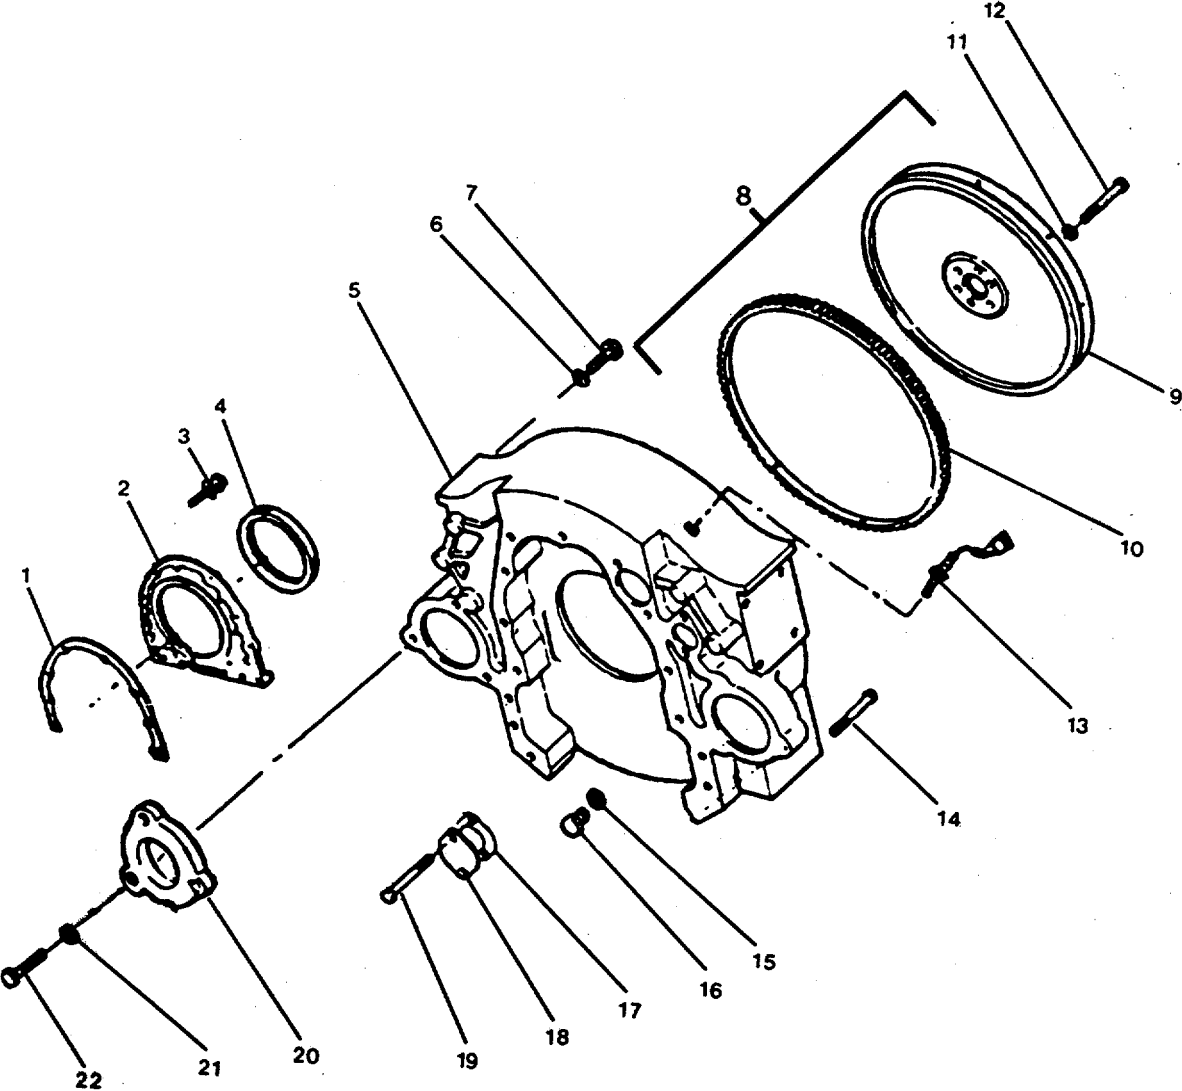

FIGURE 3-80. Flywheel and Flywheel Housing Group.
- (5) Remove the remaining four flywheel mounting capscrews (7).
- (6) Tighten capscrews (5) in alternating sequence to loosen the flywheel (FIGURE 3-80) .
- (1) Before removing the housing, loosen the lock nut and unscrew the magnetic coil (13, FIGURE 3-80) pickup and wiring from the top of the housing (5).